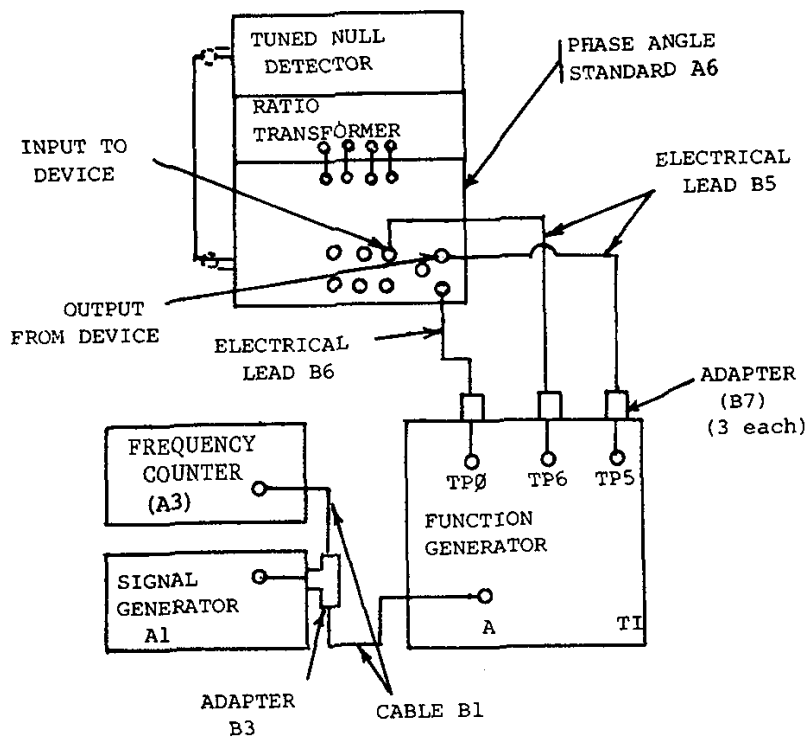

Figure A-3. Servo Signal Phase Setup
**The SERVO position of the TEST SELECTOR switch may not be required in TB 9-4935-473-50-1 or its future revisions when used to calibrate Test Set, Guided Missile System II 499000 (TOW AIRBORNE SYSTEM). In this case, paragraphs (19) through (22) below may be omitted.**
- (19) Connect equipment as shown in figure A-3.
- (20) Connect differential voltmeter (A2) to TI A101 TP-0 (LO/Black) and A101 TP-5 (Hi).
- (21) Set TI TEST SELECTOR to SERVO. Adjust signal generator (A1) controls for an differential voltmeter indication between 0.95 and 1.05 V rms and a frequency counter indication between 28.29 and 28.86 milliseconds.
- (22) Measure the phase difference between the signals at TI J9 pin B and J9 pin A. If indicated phase difference is not between 139.0 and 141.0 degrees, perform b below.